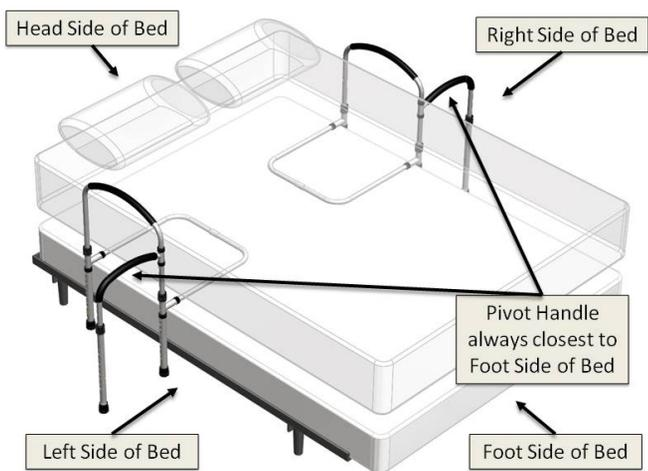

FIGURE 2
2. Determine which side of the bed the product will be installed as shown in Figure 2.